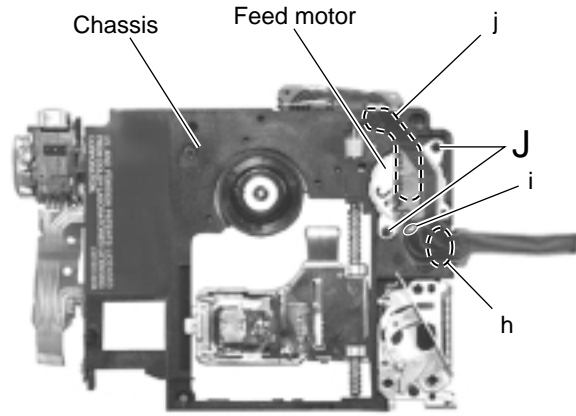

Fig.12
■ **Removing the feed motor (See Fig.12)**
■ **Removing the switchi board assembly (See Fig.12)**